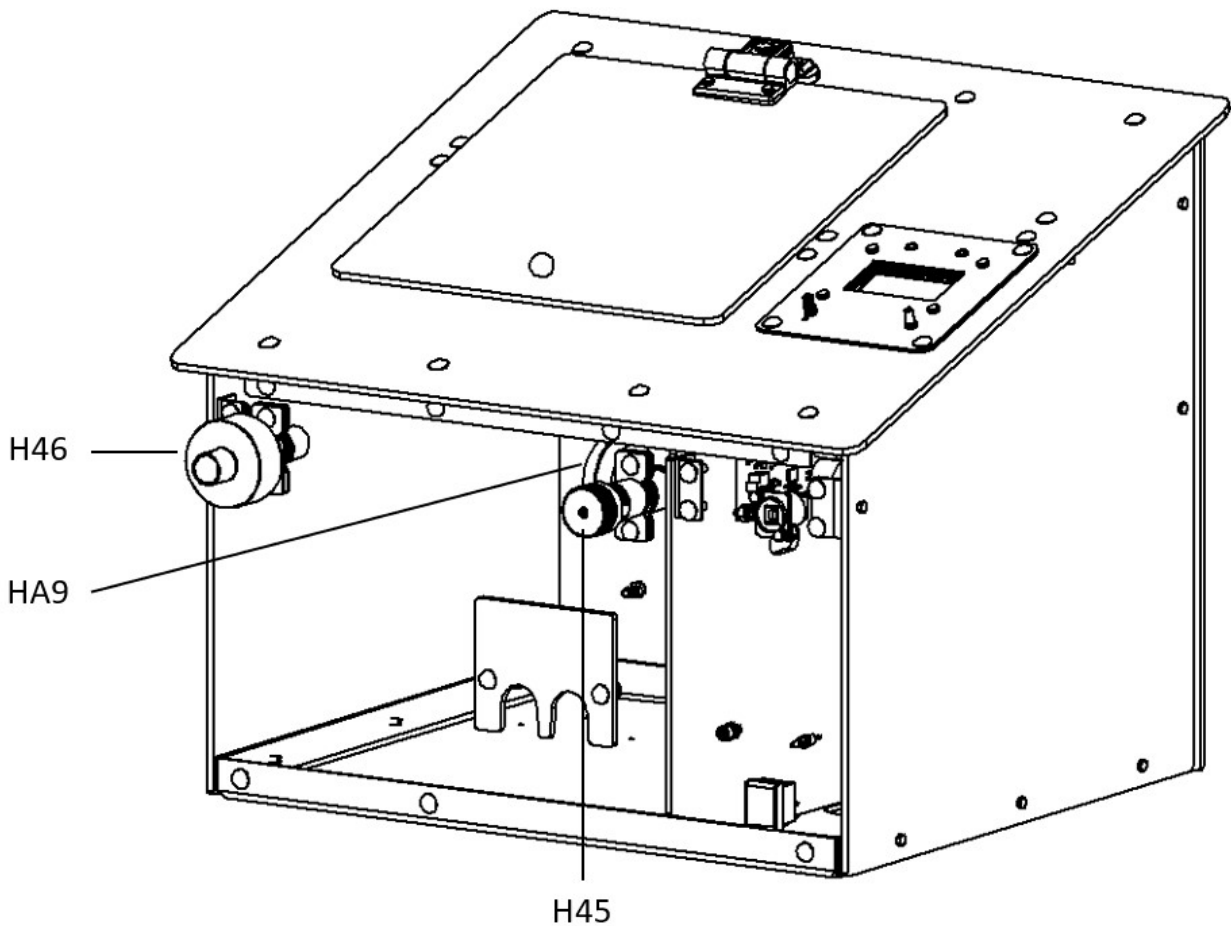

Figure 21: Mounting PEEP valve, HEPA filter and MembraneAdapter. The front is transparent to show the position of the adapter.
1. Place the H45 PEEP valve and the H46 HEPA filter as shown in figure 21.